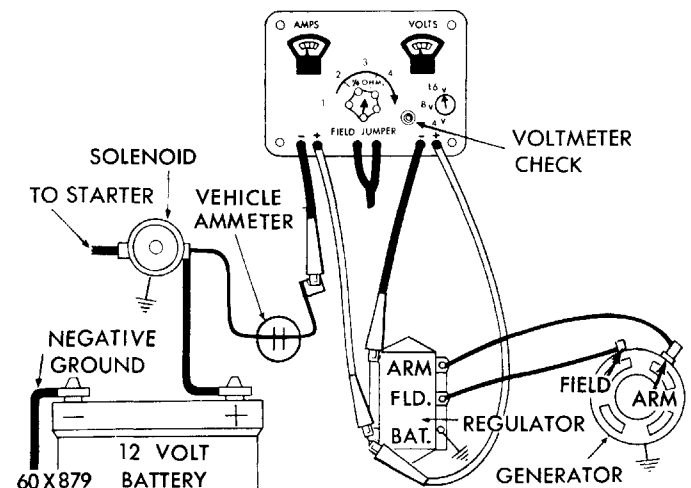

Fig. 5—Voltage Regulator Test
(1) Disconnect the battery wire from the battery terminal of the regulator and connect negative lead of test ammeter to the battery wire that was disconnected from the regulator "B" terminal and the ammeter positive lead to the regulator "B" terminal, as shown in Figure 5.
(2) Connect positive voltmeter lead to regulator "B" terminal and negative voltmeter lead to base of regulator.
(3) Turn control knob of tester to the Number 3 position.